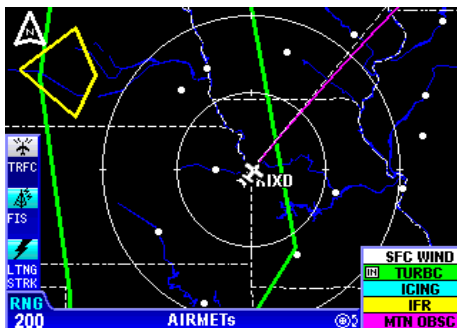

Figure 2-35
1. Press the **WX** Function Select Key until the FIS Graphics Page is displayed. If necessary, turn the Rotary Knob to obtain the Graphical AIRMETS display similar to Figure 2-35. **AIRMETS** will be displayed at the bottom of the display.